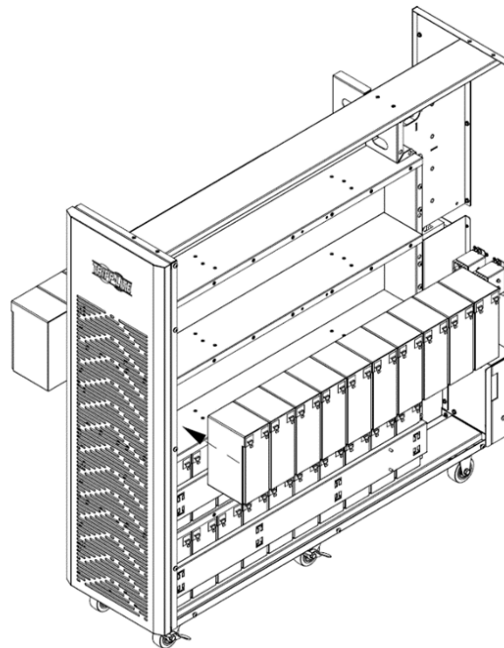

Figure 5-10B
12. Install another 10 battery packs to the layer (L3-B, group 3 negative string). Be sure to keep terminal sides of all batteries up (Figure 5-10B).